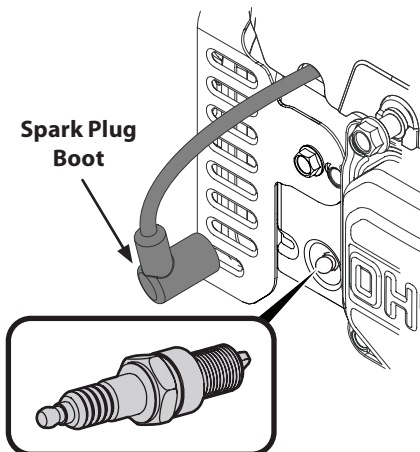

Figure 6-9
- Remove the spark plug boot and use a spark plug wrench to remove the plug. See Figure 6-9.